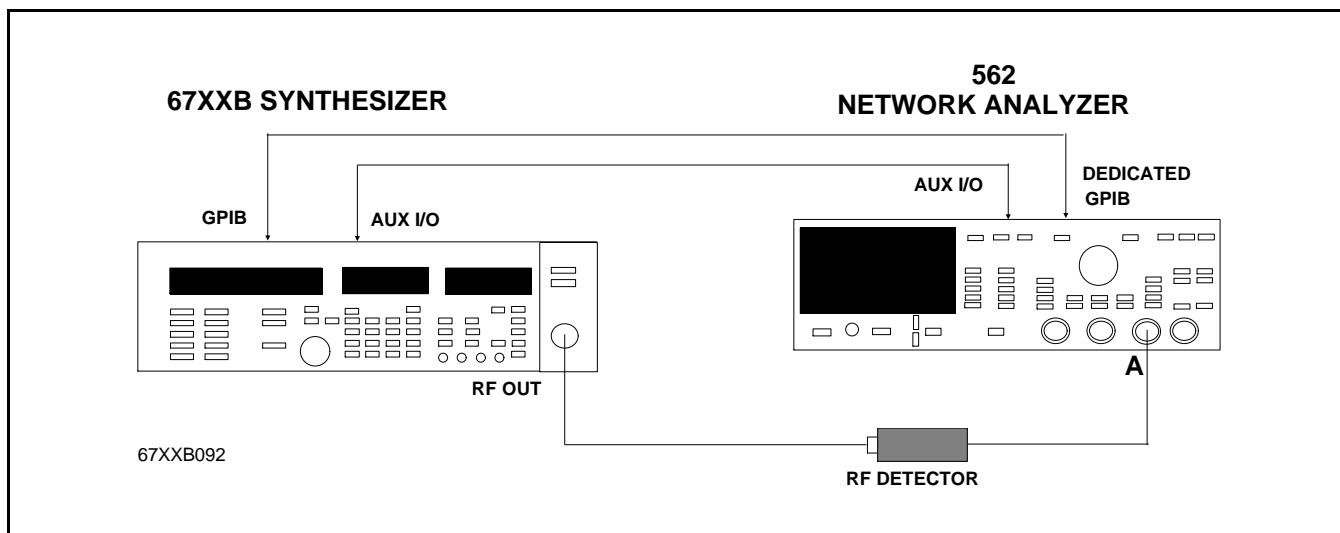

Figure 3-10. Test Equipment Setup for ALC Slope Calibration
2. Connect the equipment, shown in Figure 3-10, as follows: